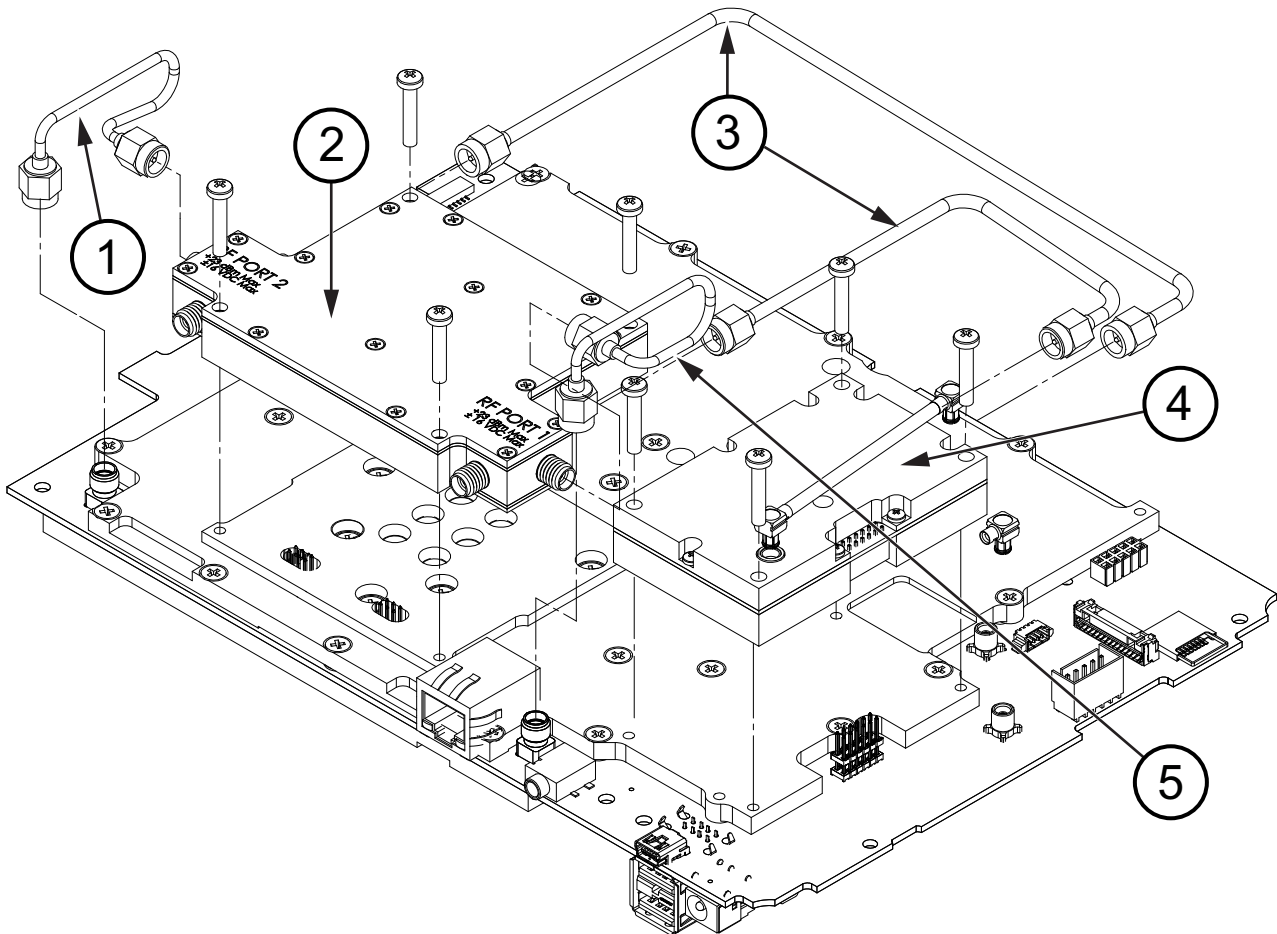

Figure 4-26. Microwave Source and Transfer Switch Module
Use Figure 4-26 for the following steps:
4. Disconnect the two semi-rigid cables from the Microwave Module RF output connectors. Refer to item 3 in Figure 4-26 on page 4-34.